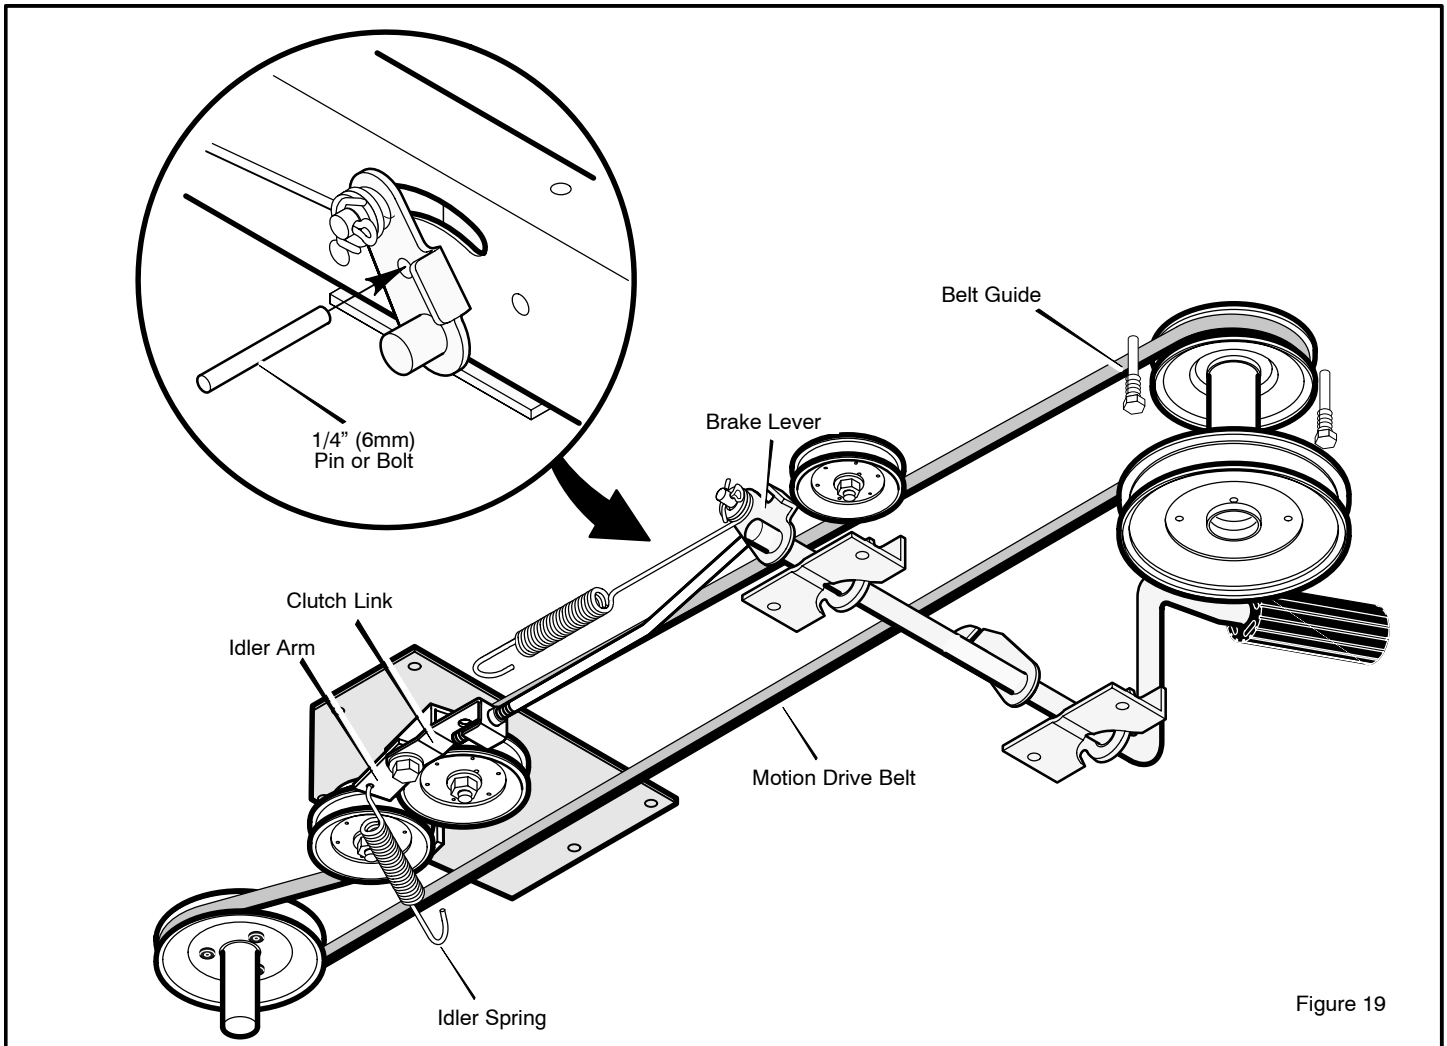

Figure 19
3. Align the hole in the **brake lever** with the hole in the frame. Hold the **brake lever** in place with a **1/4 inch (6 mm) pin or bolt** (Figure 19).
6. Remove the **1/4 inch (6 mm) pin or bolt** (Figure 19).